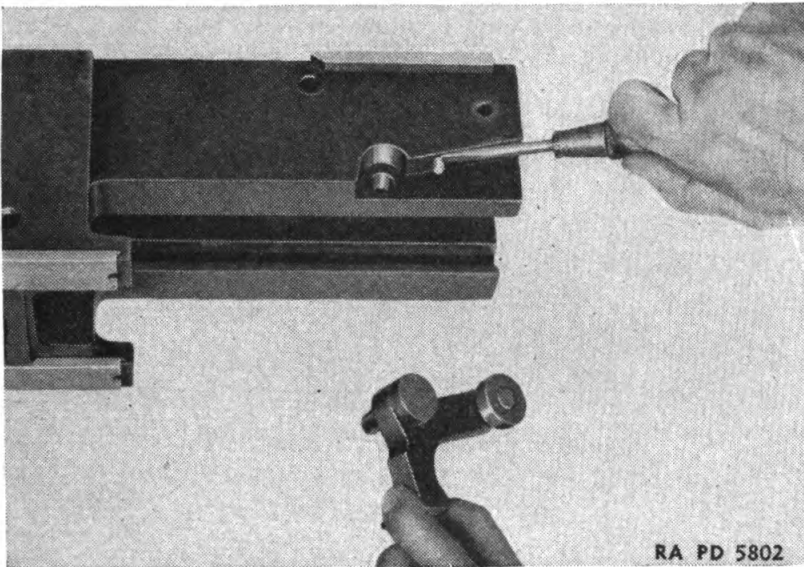
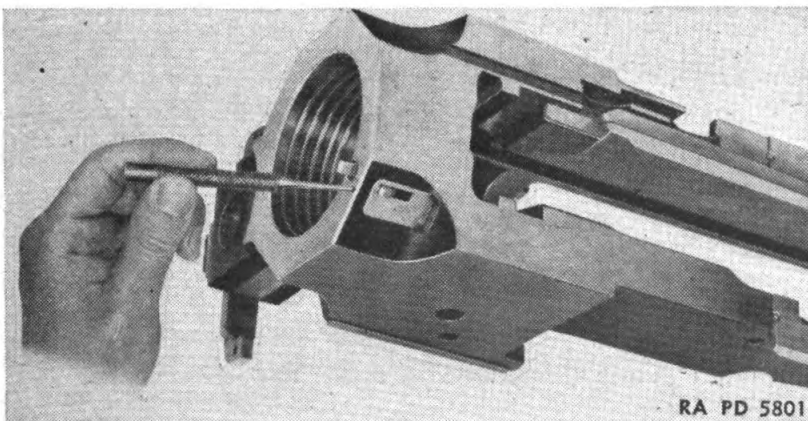

FIGURE 64.—Removal of accelerator.
FIGURE 65.—Removal of tube lock plate assembly.
(2) Remove ejector nut.
(3) Press ejector down and slide it out toward center portion of tube extension. Be careful not to let ejector spring jump out.
**b. Accelerator assembly.**—(1) Depress accelerator spring plunger into tube extension body by means of a screw driver (fig. 64).
- (2) Remove accelerator by pulling to the left of tube extension.
- (3) Ease out accelerator spring and plunger.
*c. Tube lock.*—(1) Remove tube lock plate assembly by depressing its plunger with a piece of wire as shown in figure 65. Lift out tube lock assembly.